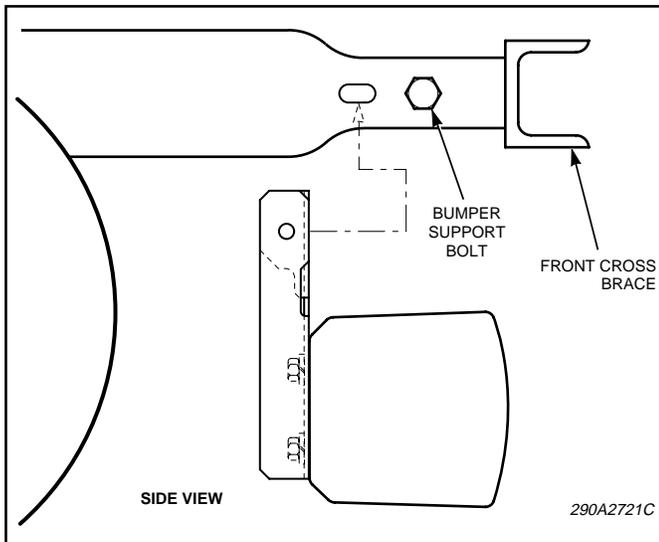
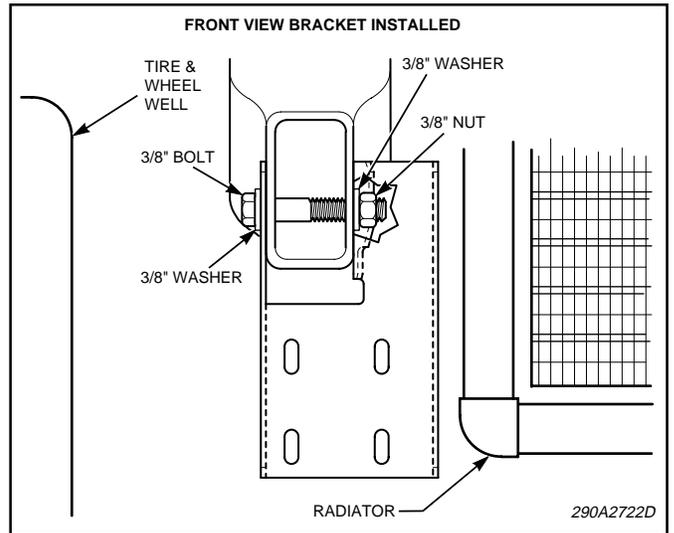

Figure 3.
Figure 4.
4. See figure 3. Position the speaker/bracket assembly over the chassis frame rail with the speaker bracket holes aligned with the slots in the chassis frame rail. Secure the speaker/bracket assembly to the chassis frame rail using the 3/8" bolt, washers, and elastic stop nut as shown in figure 4. Ensure that the bolt is tightened until the speaker bracket tabs conform to the chassis frame rail contour.